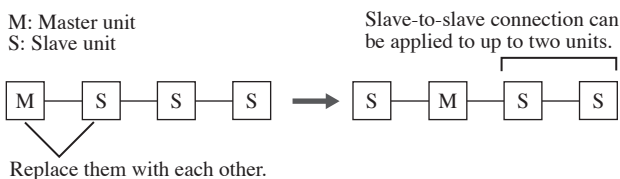

Fig.2-5 Example of the Placement of Four Power Supplies Operated in Parallel
- For parallel operation of four or five power supplies, place the master and slave units so that three or more slaves are not located next to each other as shown in Fig. 2-5. Otherwise, operation may become unstable.